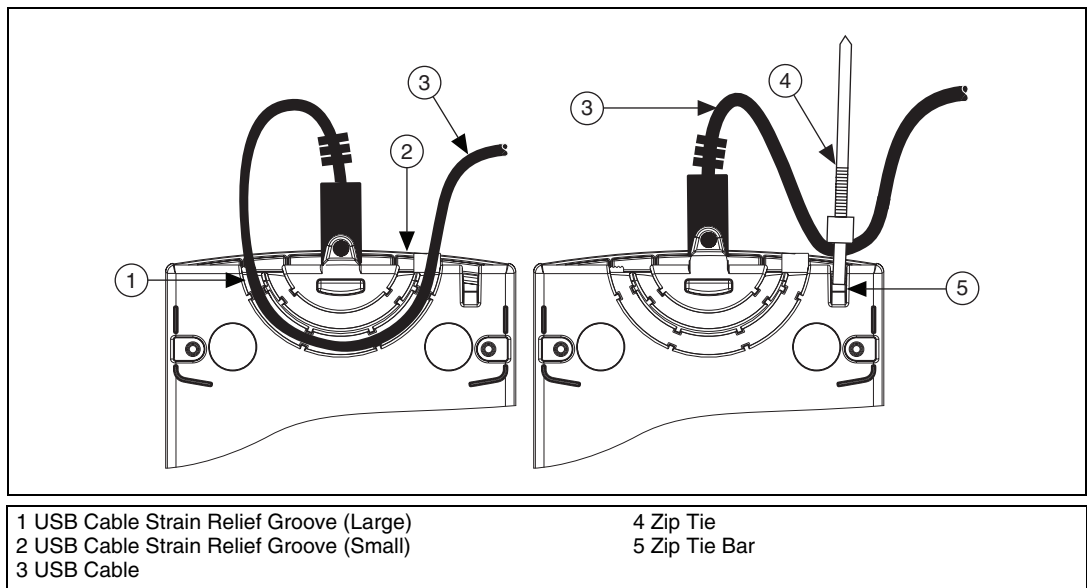

Figure 1. USB Cable Strain Relief Options
- **Cable Strain Relief Groove Method**—Press the USB cable into one of the two grooves on the underside of the NI USB-6509. Choose the USB cable groove that matches your USB cable size, as shown in Figure 1.
- **Zip Tie Method**—Thread a zip tie through the zip tie bar on the underside of the NI USB-6509 and tighten around the USB cable, as shown in Figure 1.